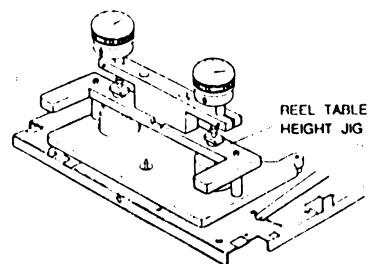

Fig. 14 Reel disk height
1. Set the jig for reel disk height to the reel disk L,R as shown in Fig.14